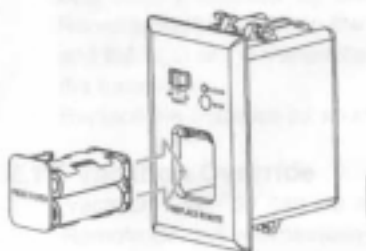

Figure 5
- 7 Slide the battery compartment into the Remote Receiver. See Figure 5.